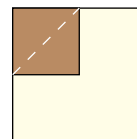
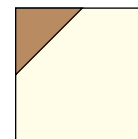

Fig. 29
Fig. 30
25. Place (1) 2 ½" Fabric C square on the top left corner of (1) 4 ½" Fabric D square, right sides together (Fig. 29). Sew across the diagonal of the smaller square from the upper right corner to the lower left corner (Fig. 29). Flip open the triangle formed and press. Trim away the excess fabric from behind the triangle ¼" away from the sewn seam (Fig. 30).